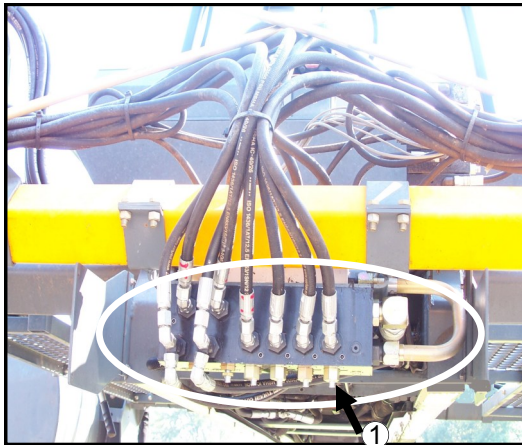
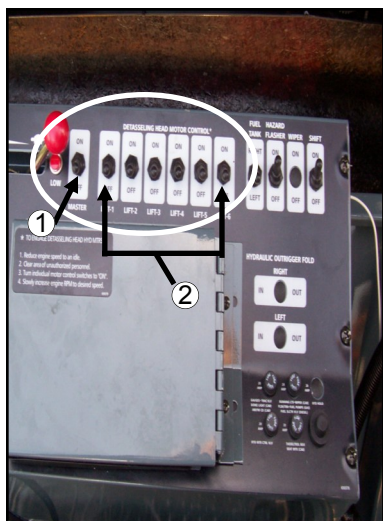
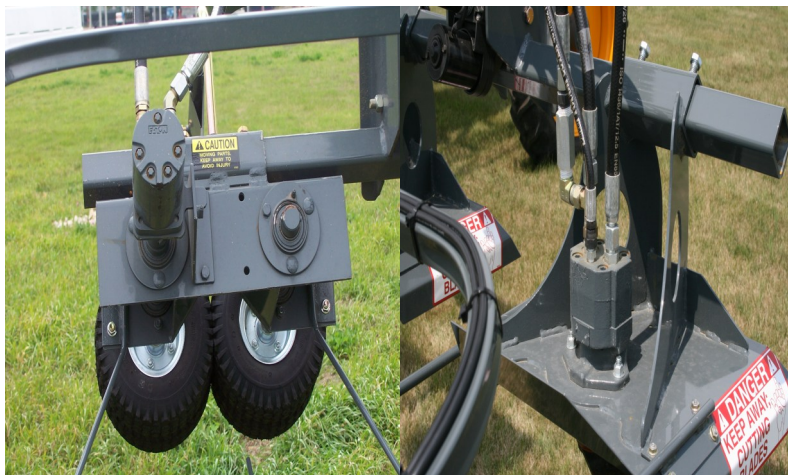

FIG 5.28
FIG 5.29
FIG 5.30
The hydraulic motors on the detasseling heads (fig. 5.30) are controlled by a master switch (fig. 5.29, item 1) and individually turned on and off with a row of switches mounted on the control panel to the right of the operator's seat (fig. 5.29, item 2). To open the solenoid on any of the motor control valves (fig. 5.28) which activates the motors, flip the corresponding switch (es) away from the operator. To shut any or all motors off, flip the corresponding switch(es) toward the operator.
Each set of motors is controlled with an adjustable needle valve (fig. 5.28, item 1) that restricts hydraulic flow to the hydraulic motors so they don't over-speed and become damaged. This valve is preset at the factory and requires no adjustment.